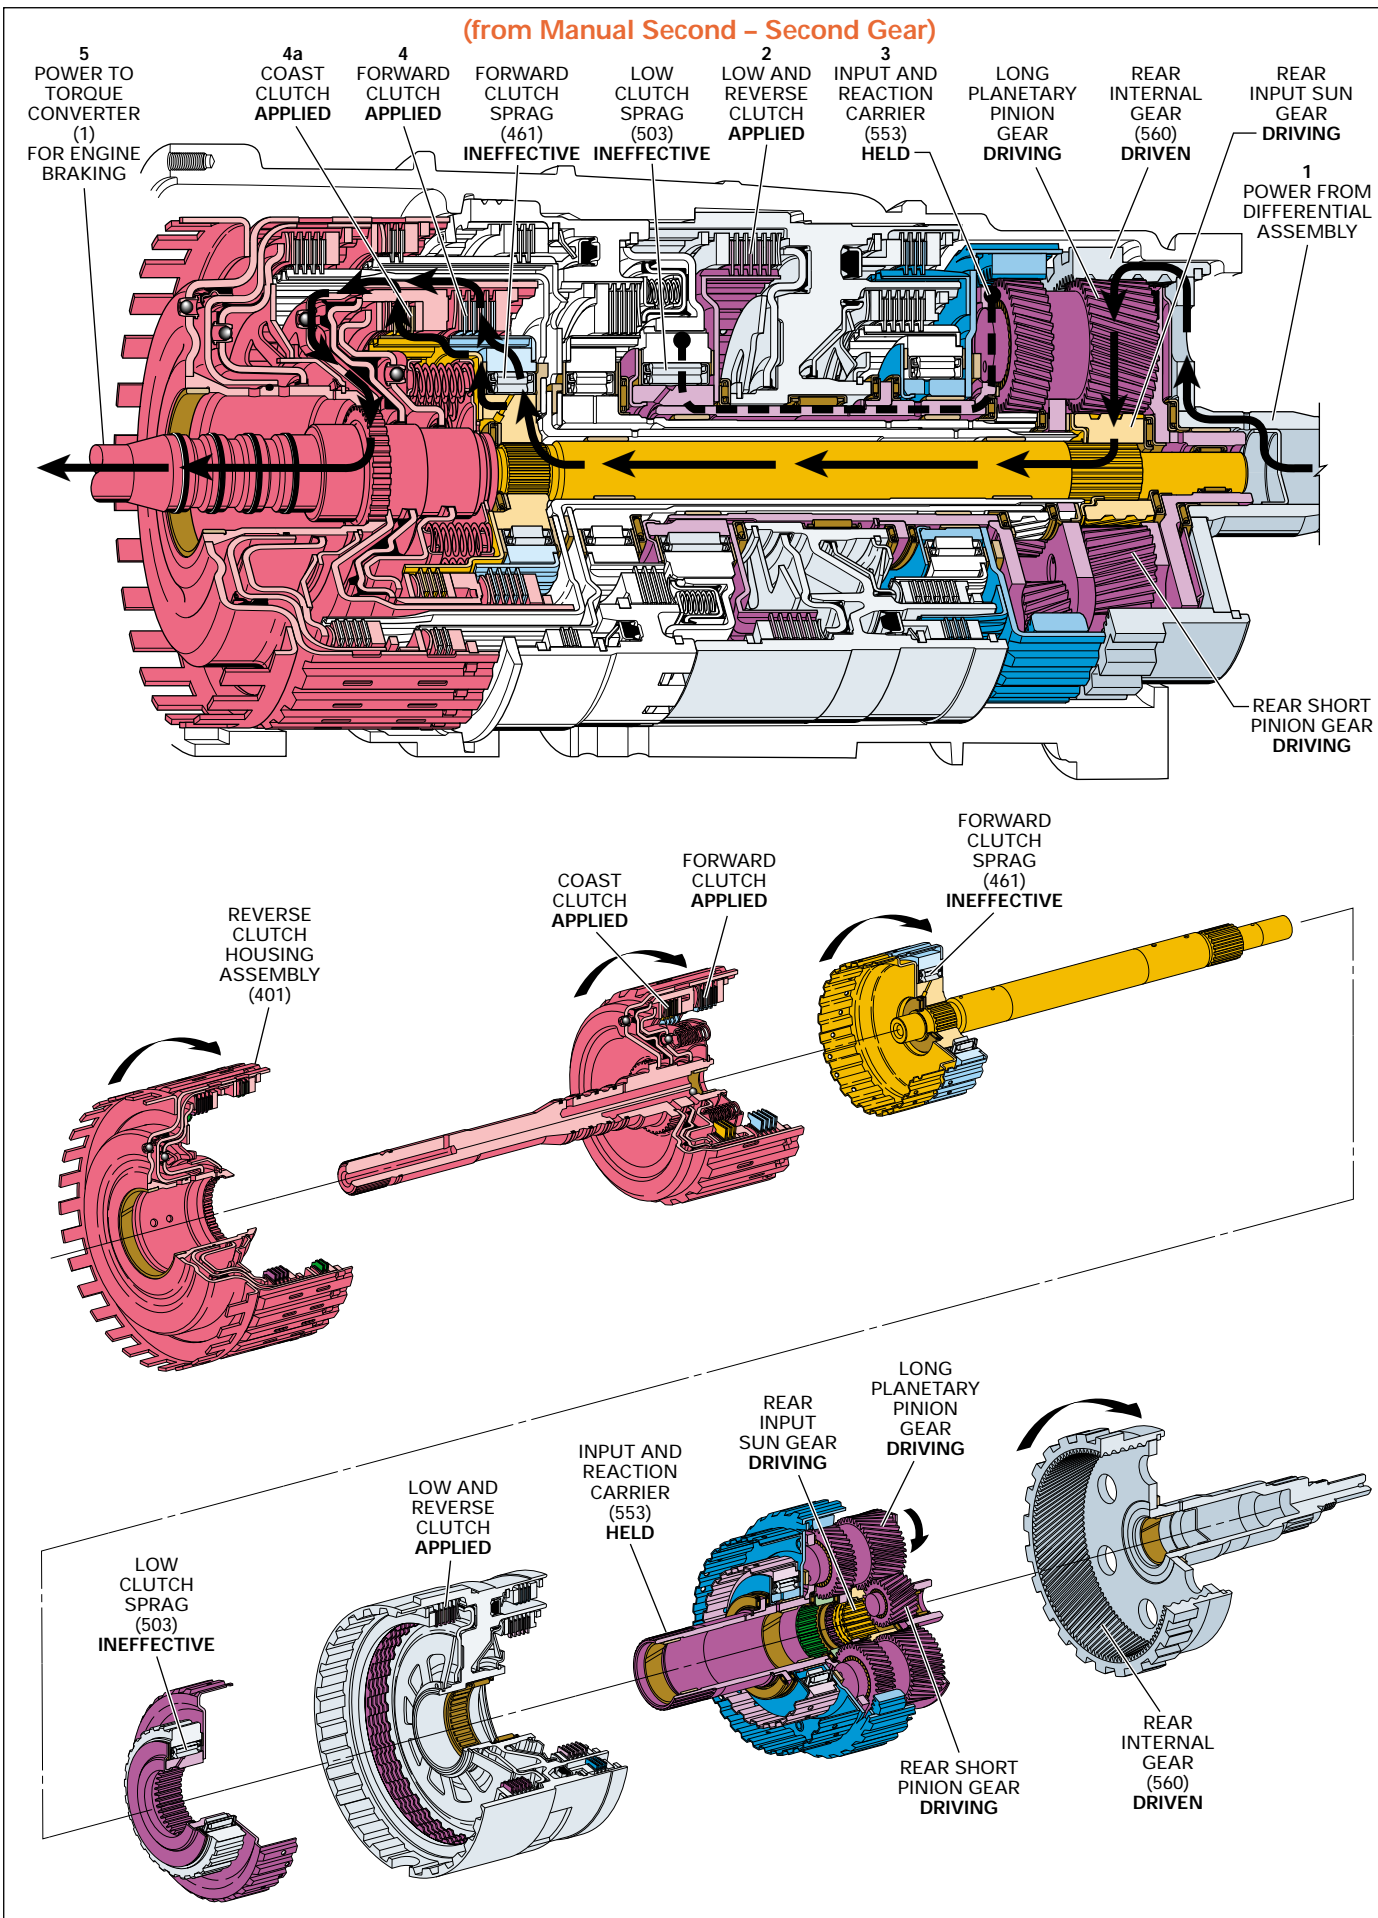

Figure 78
Note: Transfer of engine torque during acceleration is identical to Overdrive Range – First Gear (refer to page 64A) to obtain an approximate gear ratio reduction of 3.42:1 through the transmission gear set. The power flow in Figure 78 and the following text describes conditions during deceleration (zero or minimum throttle) and how engine compression braking is achieved.
Vehicle speed provides the torque input to the transmission through the drive shaft and transmission output shaft assembly (562). This is shown by the direction of the power flow arrows in the drawing at the top of Figure 78. Notice that this flow is identical to Overdrive Range – First Gear except that the arrows are in the opposite direction.